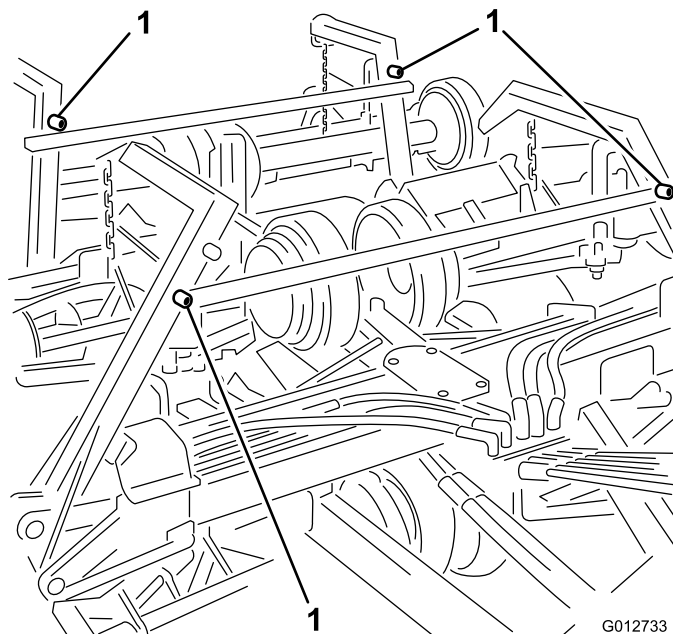

Figure 21
3. Mount transport strap to mounting pins on lift arms and secure with hair pin cotters (Figure 21).